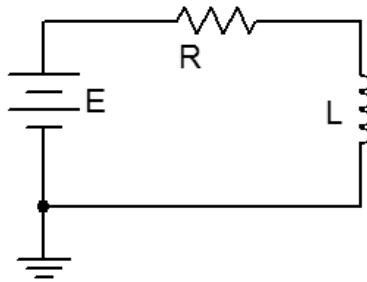

Figure 1.1
1. Using figure 1.1 with $E=10\text{ V}$, $R=47\text{ k}\Omega$, and $L=10\text{ mH}$, calculate the time constant and record it in Table 1.1. Also, calculate and record the expected steady state inductor voltage in Table 1.2.